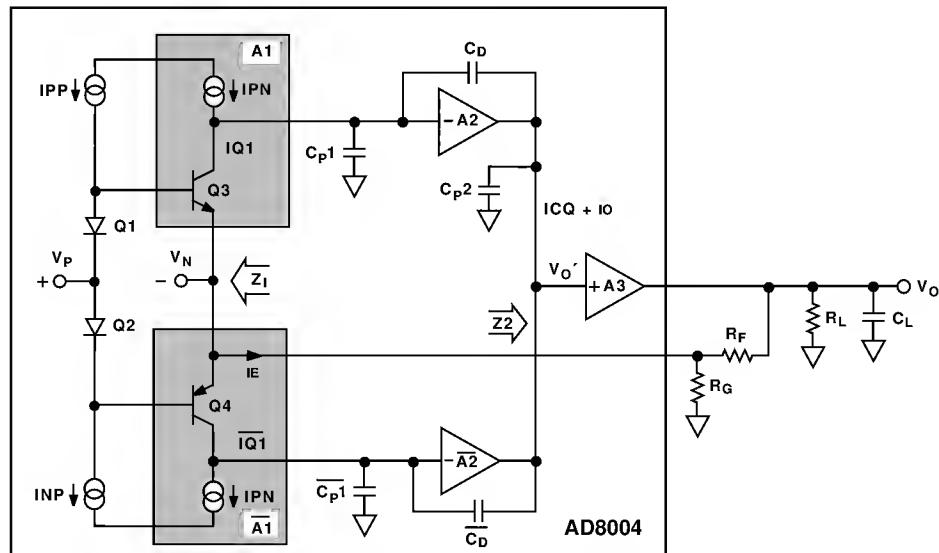

Figure 30. Simplified Block Diagram
The AD 8004 is a member of a new family of high speed current-feedback (CF) amplifiers offering new levels of bandwidth, distortion, and signal-swing capability vs. power. Its wide dynamic range capabilities are due to both a complementary high speed bipolar process and a new design architecture. The AD 8004 is basically a two stage (Figure 30) rather than the conventional one stage design. Both stages feature the current-on-demand property associated with current feedback amplifiers. This gives an unprecedented ratio of quiescent current to dynamic performance. The important properties of slew rate, and full power bandwidth benefit from this performance. In addition the second gain stage buffers the effects of load impedance significantly reducing distortion.